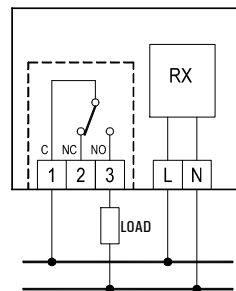

Fig. 7
- 6 Make the electrical connections according to the most suitable wiring diagram (see Fig. 7 - 8 and the paragraph "electrical connections").
Follow the connection layout shown in Fig. 7 or 8.
In Figure 7 is shown how to connect a valve, which will be powered when the output is enabled and that is to say when the thermostat calls for heat (heating) using the NO contact of the relay.